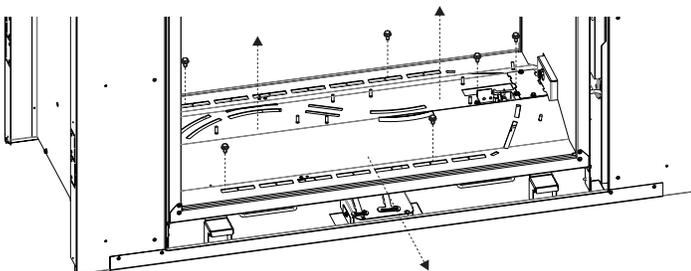

Figure 4
4. Remove (2) screws holding pilot assembly to burner pan. This will allow pilot assembly to drop.
5. Remove (4) screws holding burner base in place. Lift burner base out of firebox. **See Figure 4.**